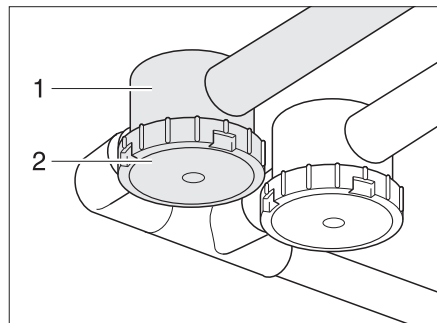

Fig. 128 Odour seal
In order to prevent odours occurring in the waste water system, the vehicle - depending on the model - has been equipped with siphons (Fig. 128,1). The siphons are installed in the waste water pipes.
- Clean the siphons every 6 months at the latest. To do so, unscrew and remove the bottom cover (Fig. 128,2).